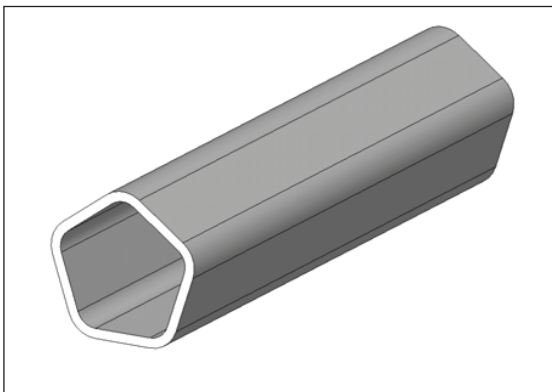

Fig. 5-16: Oxygen sensor removal tool
- Oxygen sensor removal tool (see Fig. 5-16 on p. 53)
To remove and replace the oxygen sensor, you will need the sensor removal tool provided (see Fig. 5-16 on p. 53).
3. Using the sensor removal tool (see Fig. 5-16 on p. 53), unscrew the oxygen sensor by turning it counter-clockwise. Because the oxygen sensor contains lead, be sure to dispose of it according to local regulations.